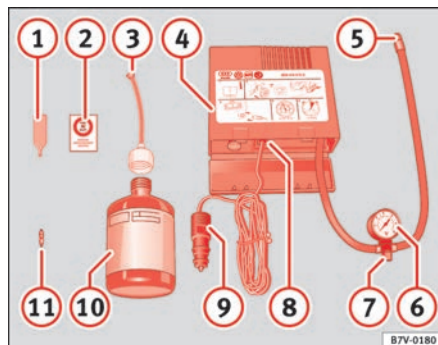

Fig. 154 Contents of anti-puncture kit
- Remove the anti/puncture sticker ⇒ fig. 154 ② and apply it to the instrument panel where it can be seen clearly.
- Use the enclosed extractor $\Rightarrow$ page 236, fig. 154 **1** to unscrew the valve insert. Place the valve insert on a clean surface.
- Vigorously shake the sealant bottle $\Rightarrow$ page 236, fig. 154 **10** for several seconds. ■